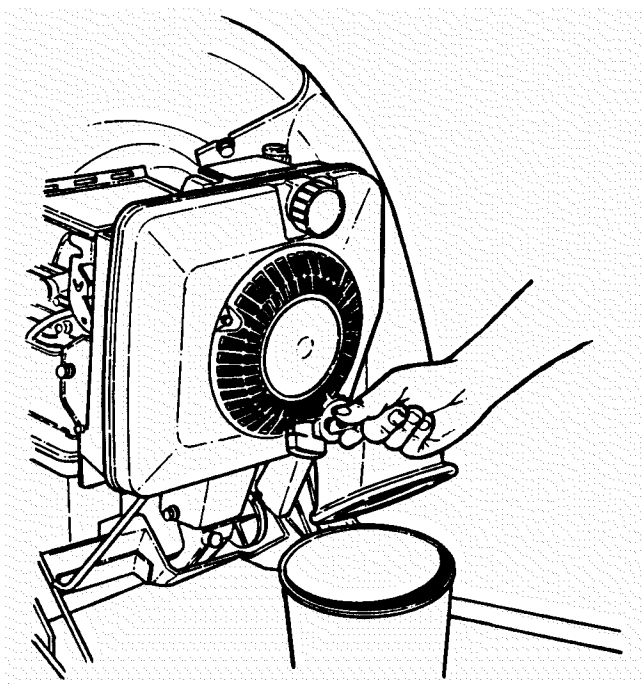

FIGURE 3.1
1. Disconnect spark plug wire and secure end away from plug. The items needed to perform oil change are: cloth rags, (1) 3/8" drive ratchet with a short extension and (1) shallow pan.
2. Tilt mower up on its rear wheels for access to the oil drain plug located underneath the mower deck. Do not tilt mower with spark plug or carburetor down. See Figure 3.1.
2. Tilt mower up on its rear wheels for access to the blade cap screw. Do not tilt mower with spark plug or carburetor down. See Figure 3.1.